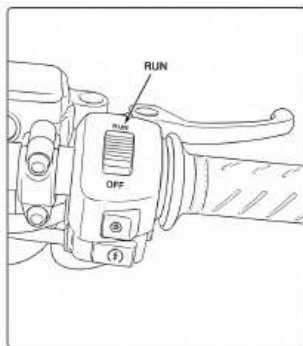

Figure 3-9
3. Set the engine stop switch to "RUN" (see Figure 3-9).